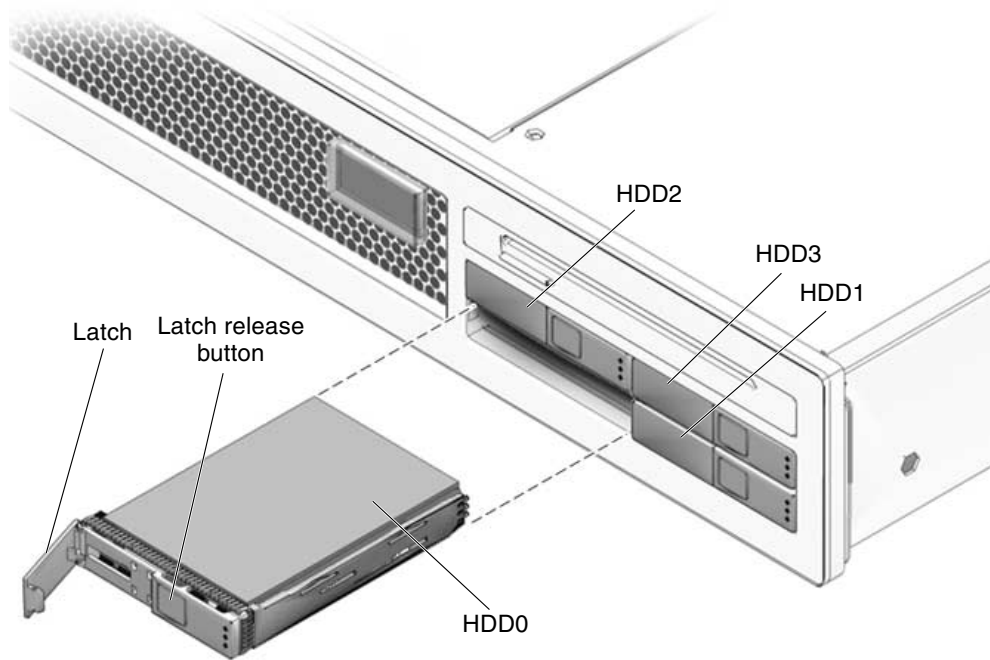

FIGURE 4-6 Locating the Hard Drive Release Button and Latch
1. **Identify the location of the hard drive that you want to replace** (FIGURE 4-6).
3. **On the drive you plan to remove, push the latch release button (FIGURE 4-6).**
The hard drive is physically addressed according to the slot in which it is installed. See FIGURE 4-6. It is important to install a replacement drive in the same slot from which the drive was removed.